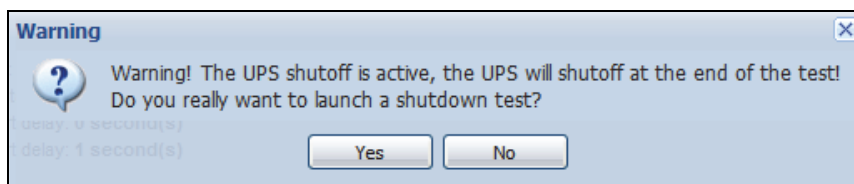

Figure 51. Test Shutdown Warning Message
- Test shutdown (see Figure 51)
NOTE: For Test Shutdown, check the settings for the UPS shutoff option to ensure the expected behavior: with the “UPS shutoff” option enabled, the shutdown sequence test will lead to the full UPS shutdown (see Figure 51).